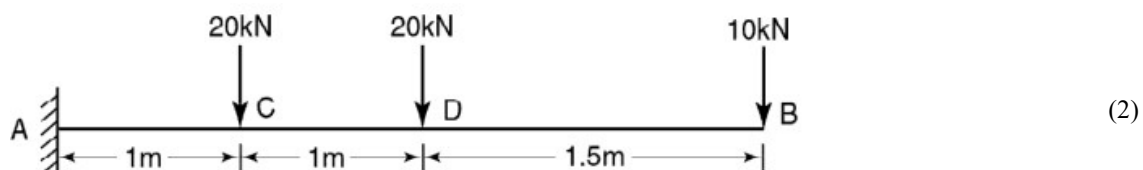

Figure 3
- C) Draw the shear force and bending moment diagram for the beam shown in figure 3